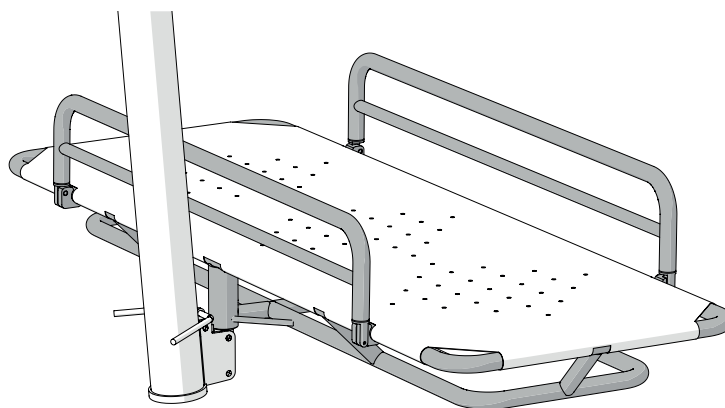

Figure 8 - The lift pin inserted into the lift sleeve.
5. The lift pin connects to the lift sleeve (see figure 8).